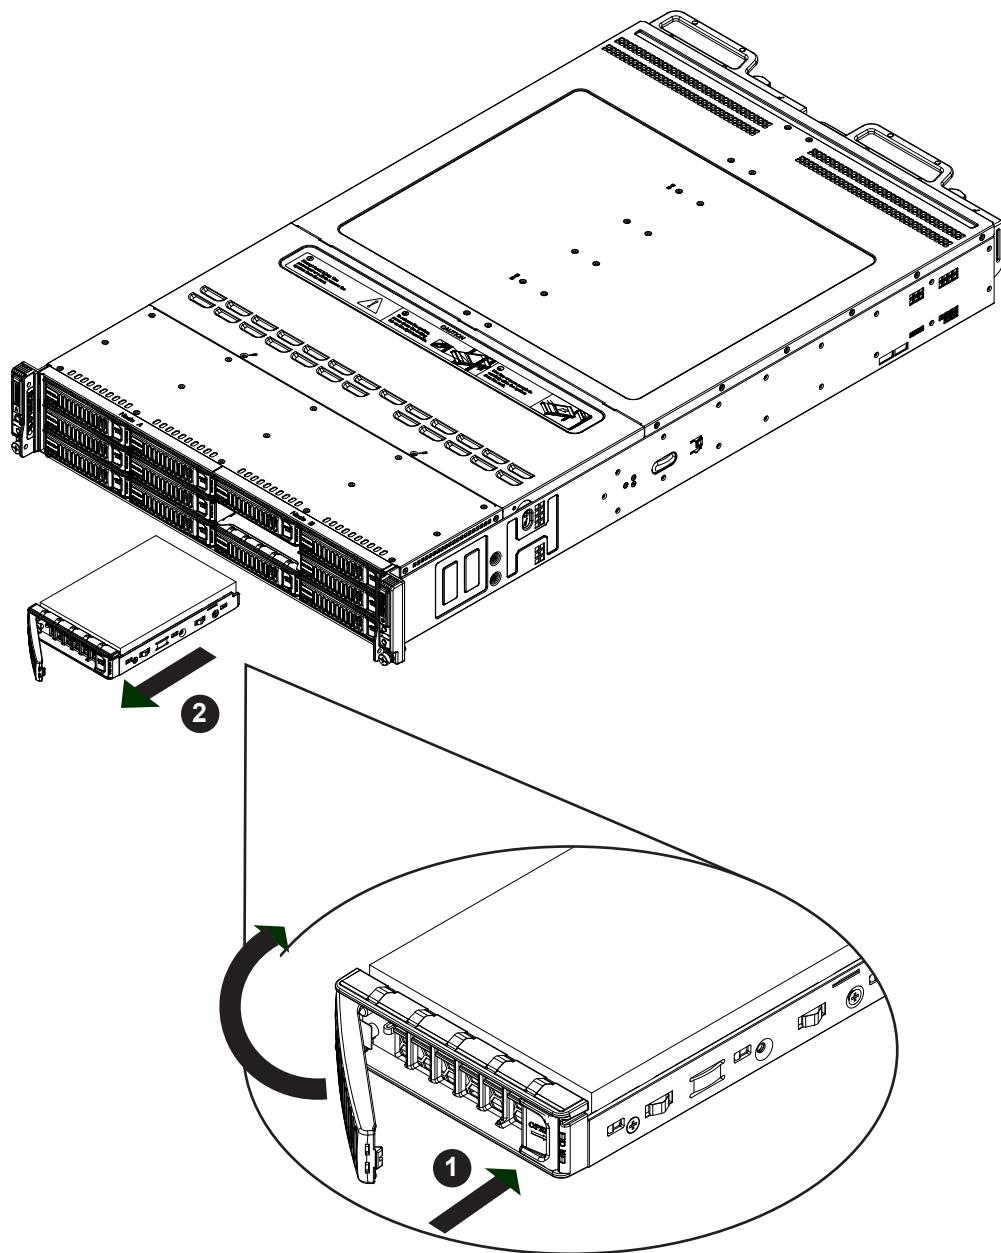

Figure 3-8. Removing a Drive Carrier
3. Remove the dummy drive from the carrier (Figure 3-8).